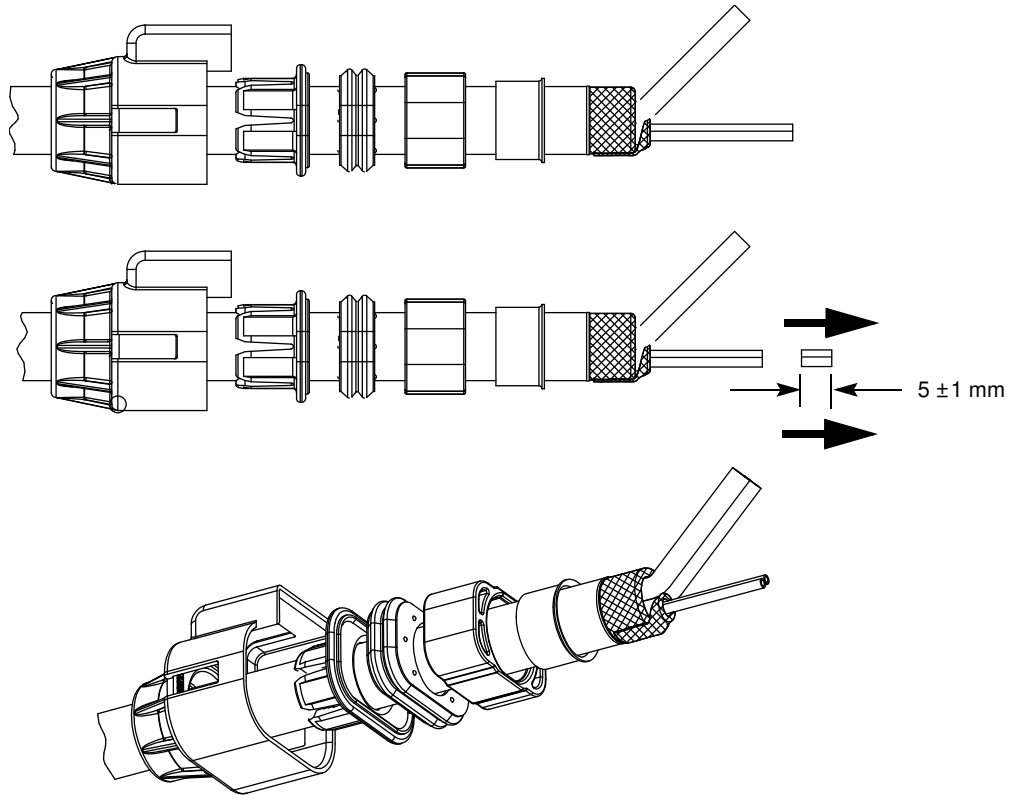

Figure 9
7. Trim back the HVIL conductors as shown in Figure 9.